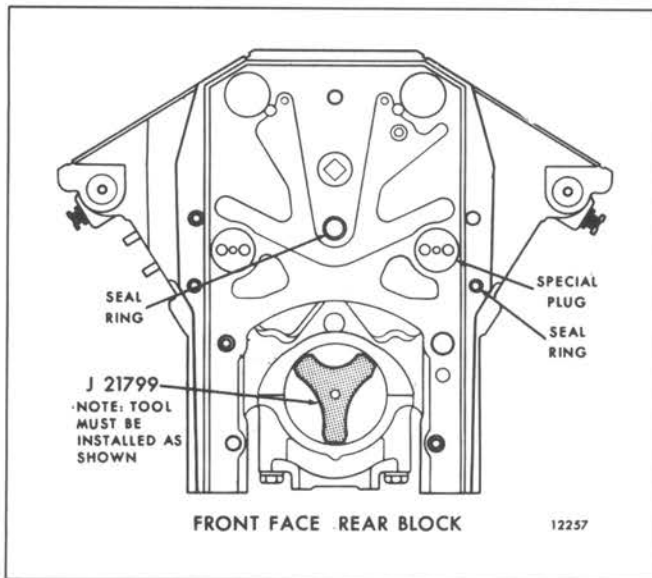

Fig. 11 – Position of Cylinder Block Alignment Tool (J 21799)
- Place the triangular cylinder block alignment tool J 21799 in the main bearing bore with the contact points of the tool located as shown in Fig. 11 and the lower end of the tool resting on the wood block.